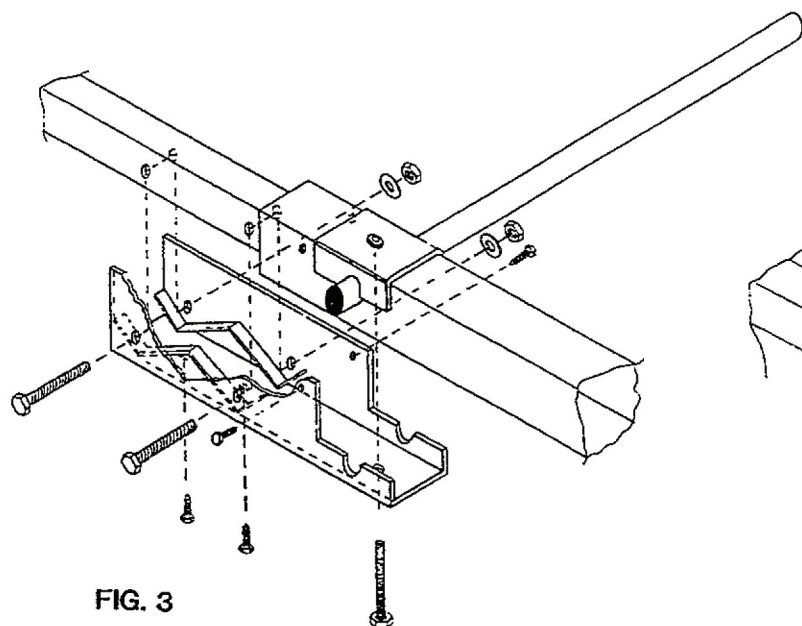
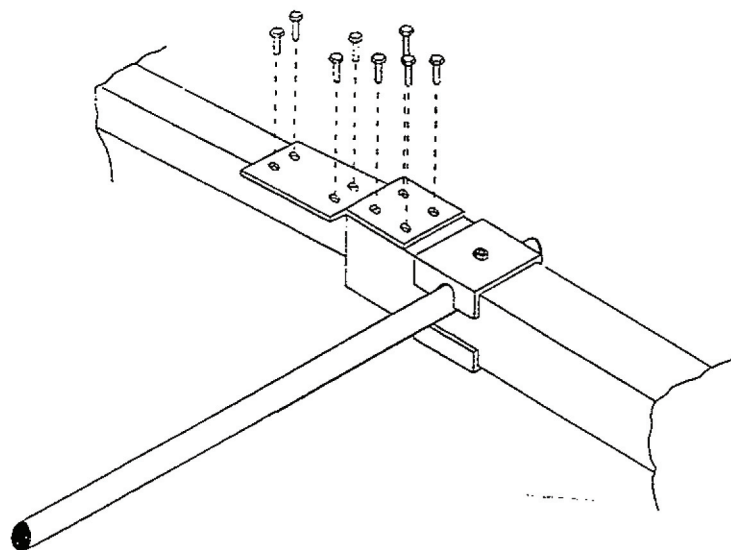
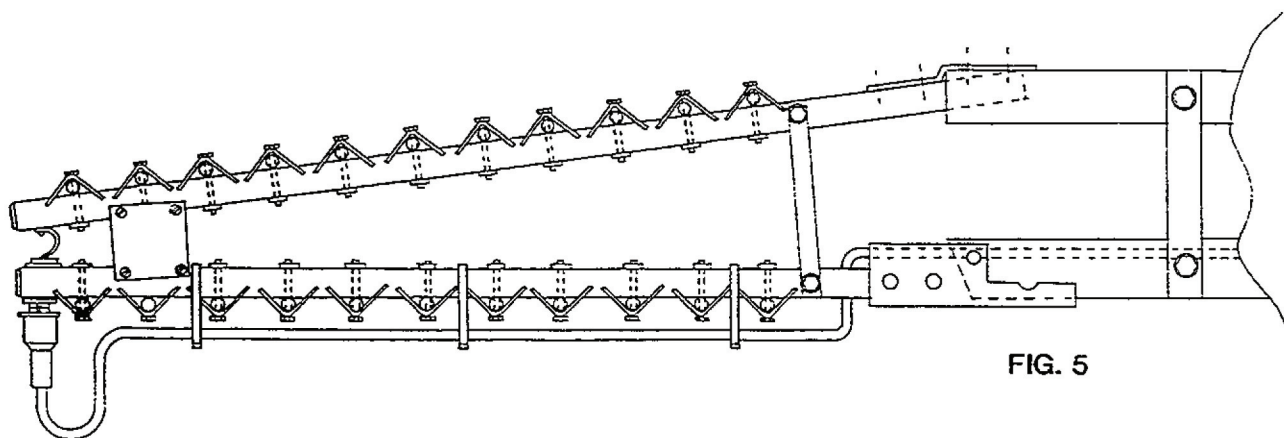

FIG. 3
FIG. 4
FIG. 5
3. Mount the Lower Boom Coupler to the bottom of the lower UHF boom with (2) each 1/4 - 20 Bolts, Lockwashers and Nuts, using the spacers, as shown in Fig. 3. Mount the Upper Boom Coupler Plate to the top of the upper UHF boom with (4) #6 x 3/8" Screws as shown in Fig. 4.
4. Move the back of the UHF Antenna (with the couplers attached, step 3, above) into the front of the VHF Antenna, making sure the coaxial cable exits the VHF Antenna in the gap between the open front end of its lower boom and the smaller UHF boom. Using the Lower Boom Coupler in place of the bottom element clamp, insert the #8 x 1-3/4" screw and secure the forward (#12) VHF Antenna element using the clamp-nut (as for the other VHF elements) on top. See Fig. 3.
5. Insert (4) #6 x 3/8" screws on the bottom and sides of the lower boom coupler. Tighten all hardware firmly. Insert (4) #6 x 3/8" screws into the top of the upper boom coupler and tighten firmly.
6. Place the 75 Ohm coaxial cable from the VHF Antenna along the lower UHF Antenna boom as shown in Fig. 5 and secure with the cable ties supplied.